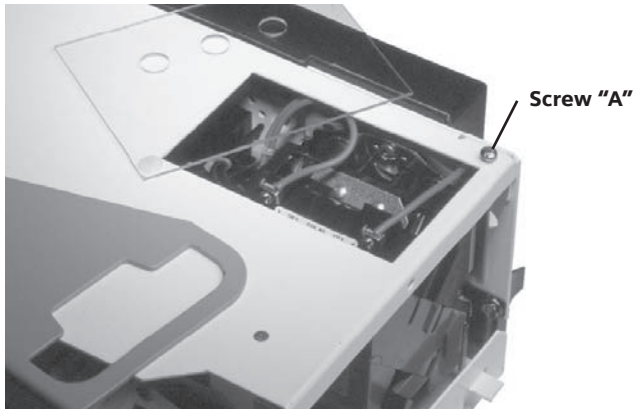

Figure 8
3. Rotate the cover as shown in Figure 8 around the pivot point.